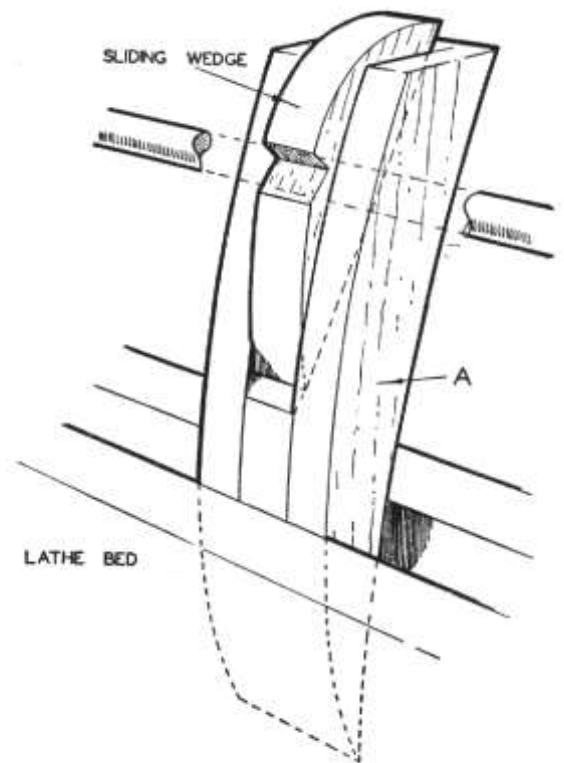

FIG. 7. SIMPLE ALTERNATIVE STEADY. Although not so effective as the steady in Fig. 6, this has its uses for some jobs.
**Alternative steady.** If your lathe has twin beds you can make a simpler one which helps to steady the work, but is not as good. Still it has its uses as it can be quickly slipped into the bed where it is needed. Fig. 7 shows its principle. Part (A) slides down and so forces the slip against the work, but it does not prevent the work from moving up and down. Perhaps you want a simpler steady. Well a wedge inserted between the rest and work helps to do some jobs, but it burns easily as it has only a line contact.